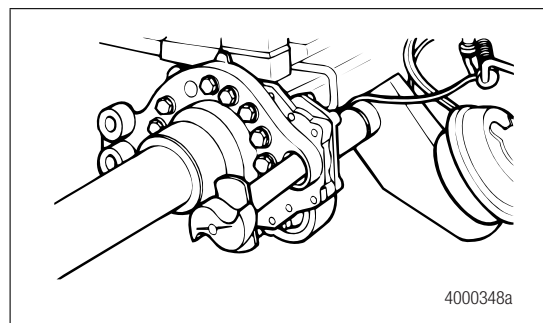

Figure 5.5
2. Install the camshaft through the spider and bracket so that the camshaft turns freely by hand. Figure 5.5.